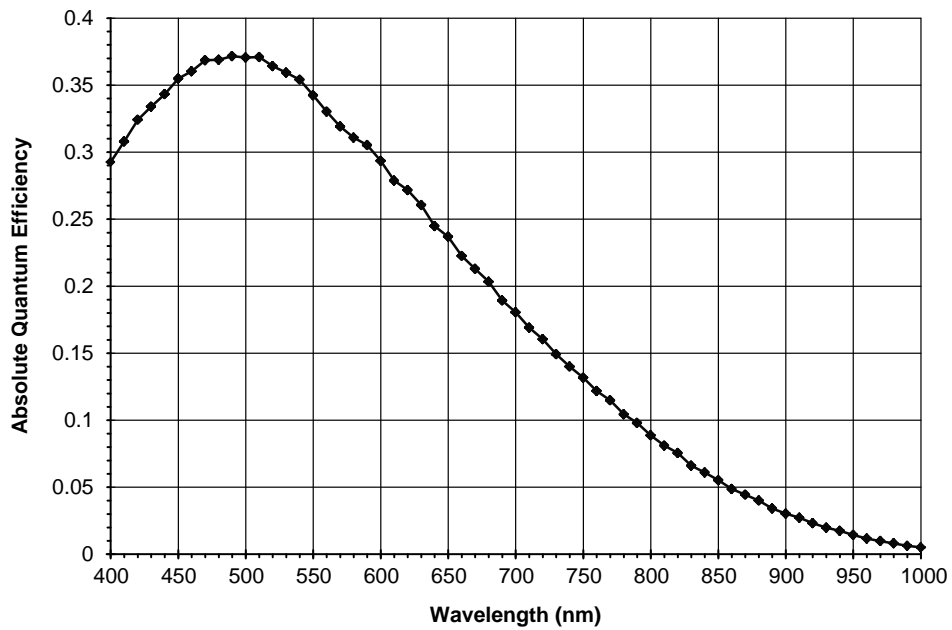

Figure 6. Nominal KAI-0330-ABA Spectral Response
2. Refer to typical values from Figure 6.